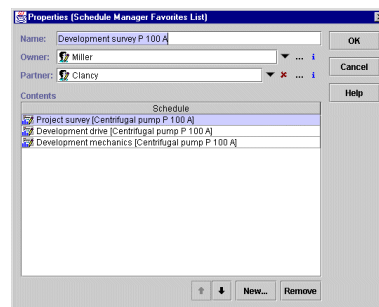

Figure 51: Adding further schedules to a favorites list
2. Highlight the favorites list to be modified and choose the *Properties* button. You can make the following changes in the *Properties* dialog box (Figure 51):